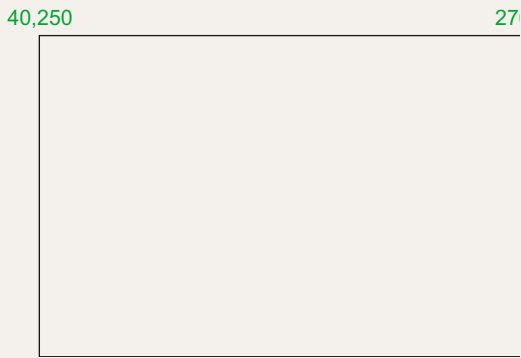

Fig. 2.28 Exercise 1
- Using the **Line** tool, construct the rectangle Fig. 2.28.